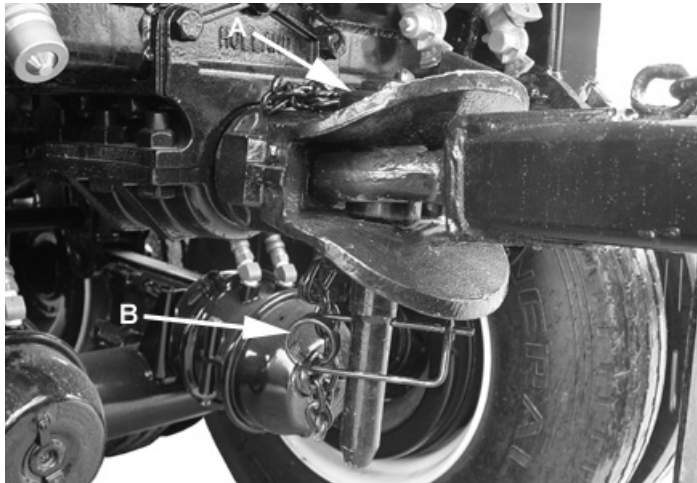

Figure 6-3 Remove Safety Lock Pin and Pin.
5. Remove safety lock pin (B) and pin (A). See figure 6-3.